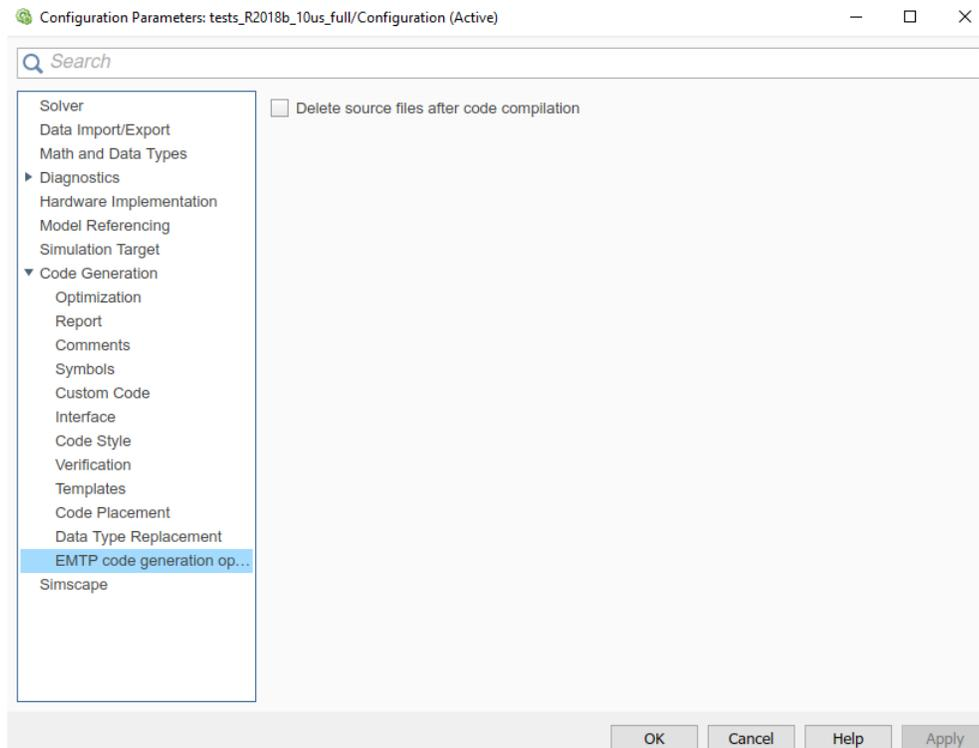

Figure 3 Simulink Model Configuration Parameters, EMTP code generation options.
- b. Under the “Code Generation” submenu, select “EMTP code generation options” (see Figure 3):
The user can search for all blocks using tunable parameters and test the tunable functionality by changing the parameter to observe its impact on simulation results. The “Inline parameters” option in “Optimization of Signals and Parameters” (see Figure 3) must be unchecked for performing the following tests.